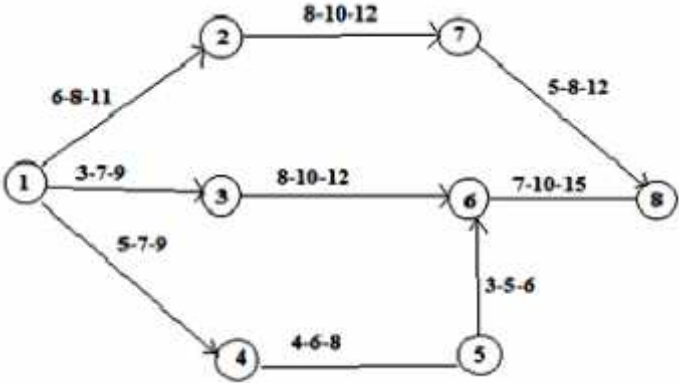

Fig.1 7M
- b) The network for a certain project is shown in fig.1 .Determine the expected time for each of the path. Which path is critical?